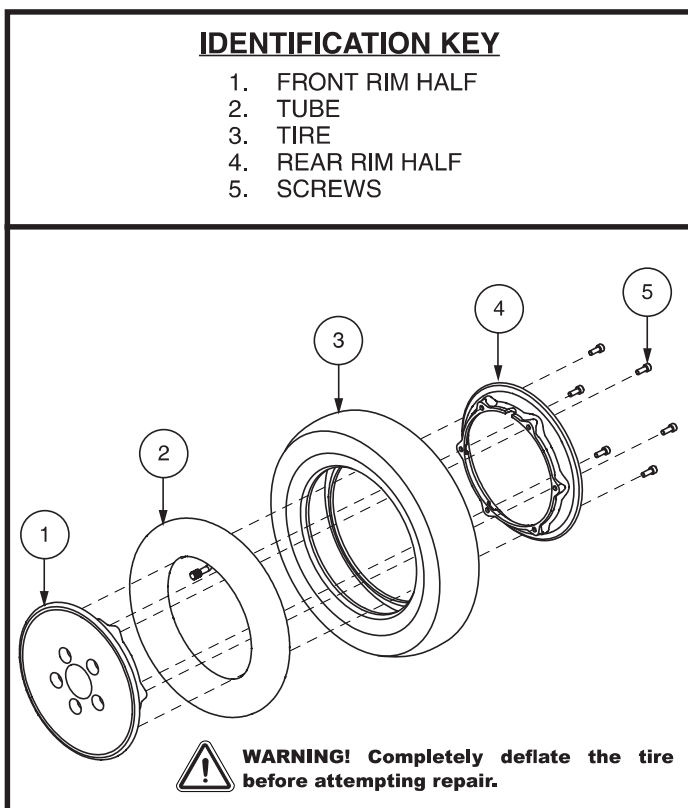

Figure 30. Pneumatic Drive Wheel Disassembly/Assembly
6. Remove the screws and separate the rim halves. **See figure 30.**